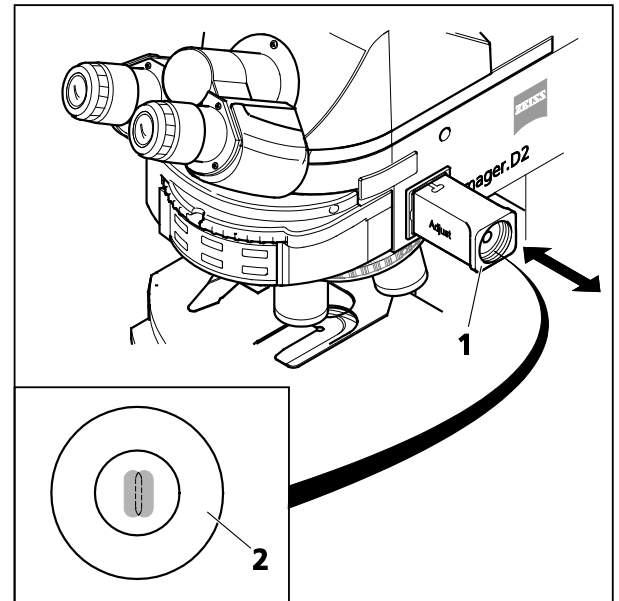
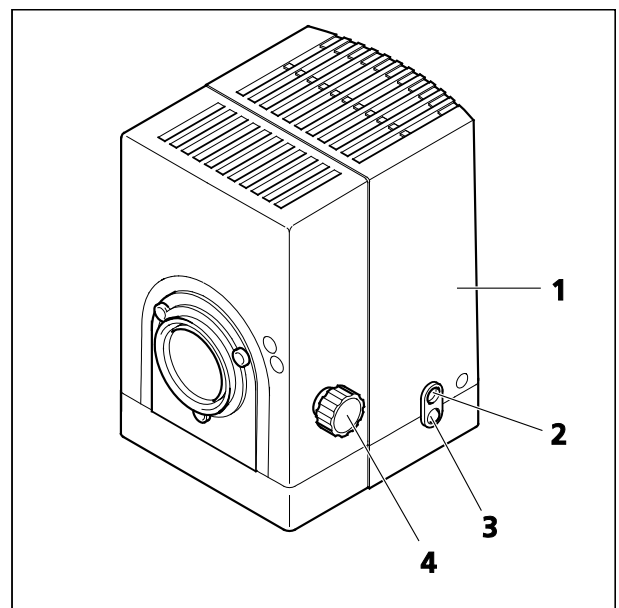

Fig. 55 Adjusting aid
Fig. 56 Aligning the HBO 100
- Switch on the HBO 100 illuminator (Fig. 56/1) via the HBO 100 transformer (Fig. 85/2) and allow it to warm up to the operating temperature.
- Pull adjusting aid (Fig. 55/1) out of the microscope stand. The brighter arc spot of the HBO 103 W/2 lamp and its slightly darker reflected image become visible in the black-glass window of the adjusting aid.
- Turn the knurled knob (Fig. 56/4) for collector adjustment to focus the brighter arc spot.
- Use the adjusting screws (Fig. 56/2 and 3) to adjust the darker arc spot (reflected arc image) within the marked alignment circle as shown in the arc spot illustration (Fig. 55/2).